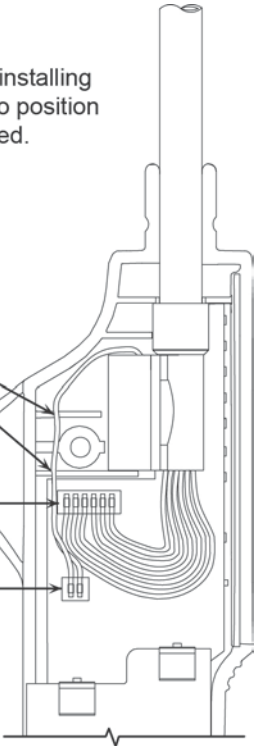

Figure 8. Connector Locations on Printed Circuit Board
7. Plug both the probe and fan connectors onto their respective header holes on the printed circuit board as shown in Figure 8.
8. Position the probe assembly between the two case halves, routing the fan wires through the notches in the case as shown in Figure 8. Then reassemble the case; push on the front retaining collar; screw on the probe tip; and reinstall the batteries.
Instrument does not turn on.	a. Batteries are dead or installed backward. Install four fresh 'AA' alkaline batteries per Section Battery Installation. b. Possible faulty refrigerant sensor. -Remove refrigerant sensor and turn on detector. If detector now turns on, and after warm-up shows a bad sensor (see sensor failure indication below), replace sensor per Section Sensor Replacement. c. Loose printed circuit board connector. Disassemble detector and ensure that all connectors are securely attached to the printed circuit board. See Figure 8.
Erratic gas indication.	a. Sensor faulty. Replace sensor per Section Sensor Replacement. b. Loose sensor. Unscrew probe tip and ensure that sensor is being held firmly in socket. c. Loose printed circuit board connector. Disassemble detector and ensure that all connectors are securely attached to the printed circuit board. See Figure 8.